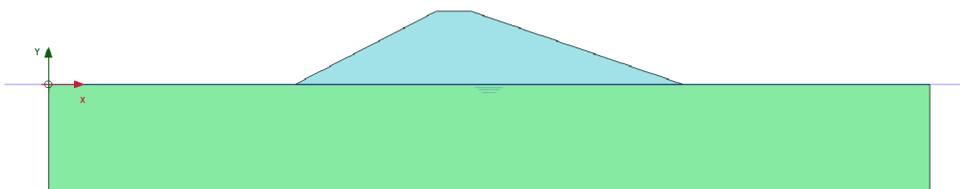

Figure 32: Configuration of phase 1
2. Right-click on the embankment and from the popup menu that appears select the **Activate** option to activate the soil representing the embankment. The model of phase 1 is shown in Figure 32 (on page 43).